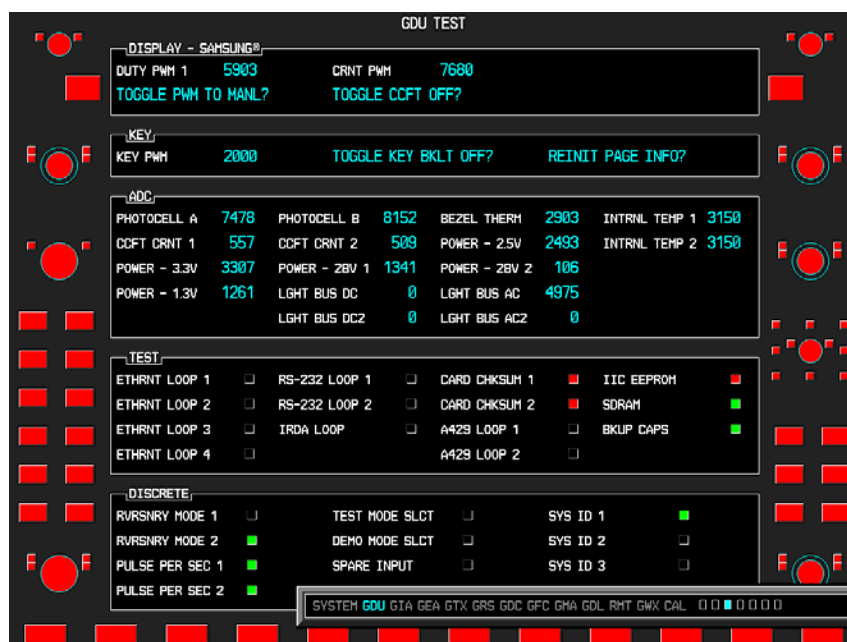

Figure 6-3. BKUP CAPS Checkbox on GDU TEST Page
21. Use the FMS knob to select the GDU TEST Page. Verify that the “BKUP CAPS” checkbox on the GDU TEST Page is green (Figure 6-3), for each GDU. If the “BKUP CAPS” checkbox is red return the GDU to Garmin for repair.